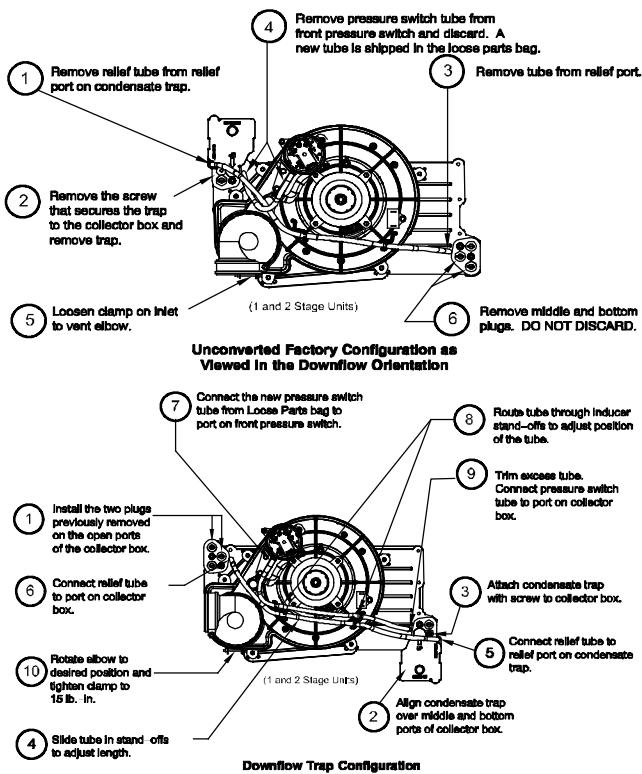

Fig. 10 - Downflow Trap Configuration
When the furnace is installed in the downflow position, the condensate trap will be initially located at the upper left corner of the collector box, as received from the factory. See the top image in Fig. 10. When the furnace is installed in the downflow orientation, the condensate trap must be relocated for proper condensate drainage. See the bottom image in Fig. 10.
- Fig. 10 shows the condensate trap and tubing before and after relocation. Refer to Fig. 10 to begin the trap conversion.